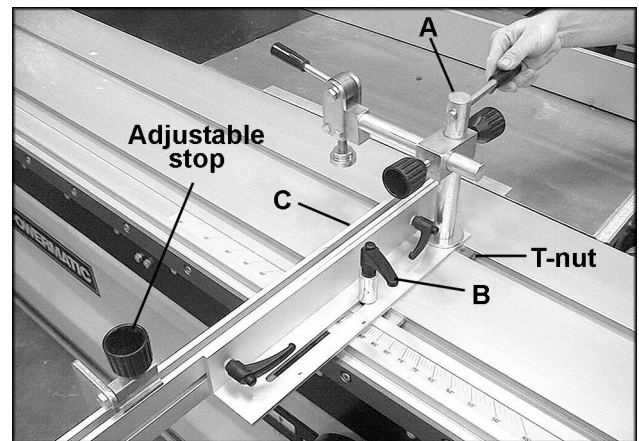

FIGURE 15
1. Mount the mitre fence assembly as shown in Fig. 15. Tighten the rod (A-Fig. 15) with the provided pin into the stationary T-nut. **NOTE: Do not move** the stationary T-nut; it has been calibrated with the angle scale.
2. Screw the large lock lever (B-Fig. 15) down into the other T-nut.
3. Loosen the small lock levers and slide the aluminum fence (C-Fig. 15) on to the assembly as shown. The adjustable stop can be mounted to the fence if desired for making multiple cuts of the same length.